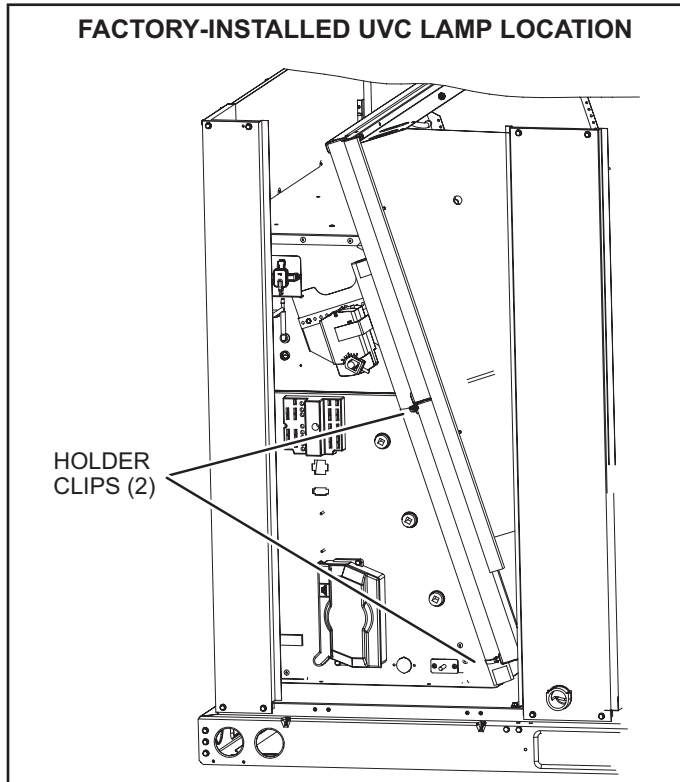

FIGURE 28
- 1 - Cut wire ties and remove the UVC lamp attached to the filter rack. See FIGURE 28.